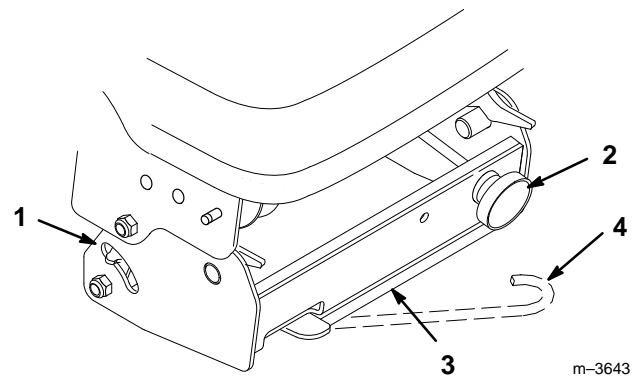

Figure 18
15. Release the belt tension release arm of the pulley box housing and swing it out toward you (Fig. 18).
- C. If the tension indicators are not in the same position on both the left and right sides, release the belt tension, turn the adjustment knob and repeat steps A and B until the indicators move to the same position (Fig. 18).
- D. Once the indicators are in the same position on both sides, swing the tension release arm into the pulley box by moving it into the position shown in Figure 18.
4. Release the belt tension release arm (Fig. 18), then remove the PTO belt from its position around the PTO pulley (Fig. 19). Additional belt slack can be obtained (if needed) by turning the belt tension adjustment knob.